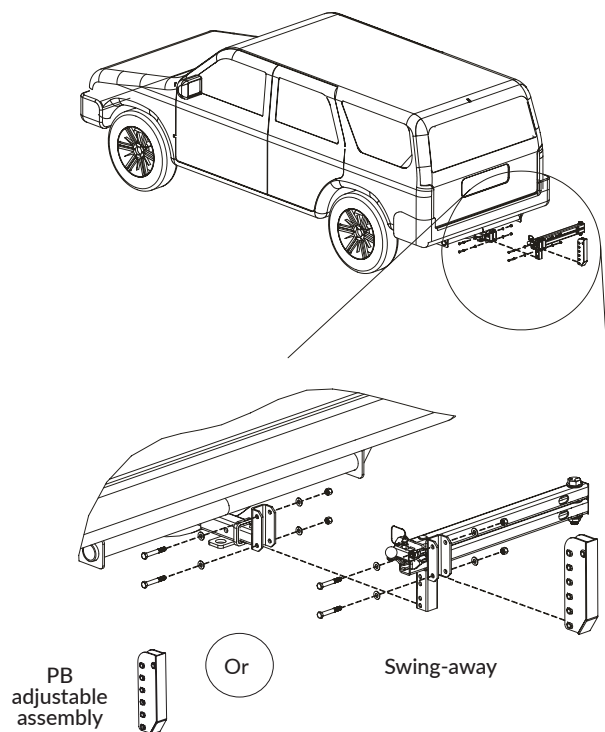

Figure 4-10
2. Fasten the swing-away or PB adjustable assembly to the hitch adaptor. *See Figure 4-10.*